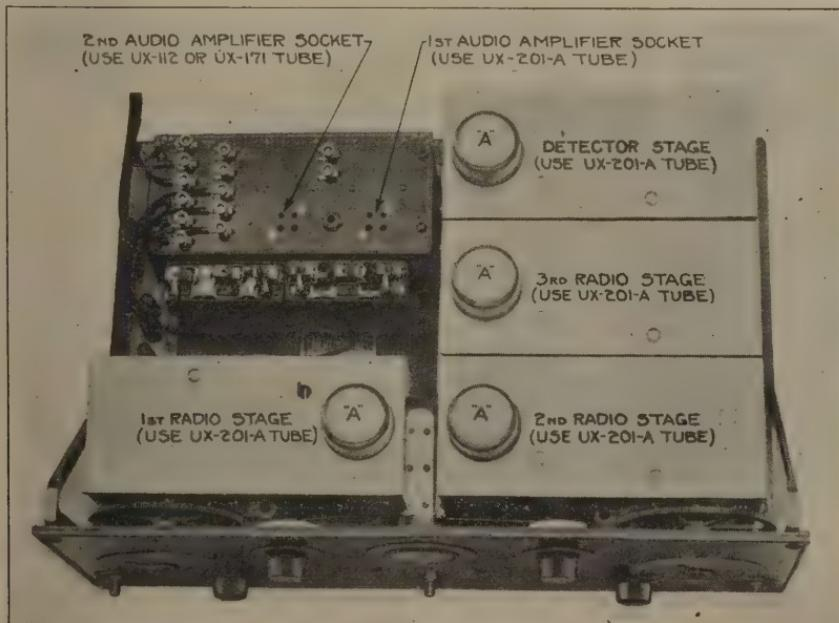

Fig. 11—Top View of Chassis showing location for Vacuum Tubes
**Fourth**—In all cases, the three radio amplifier stages, the detector and the 1st audio stage should be fitted with Radiotron UX-201-A Tubes. The 2nd audio stage requires a UX-112 Tube if one of the Accessory Lists Nos. 1, 2, 3 or 4, is chosen; UX-171 Tube if Accessory List No. 5 is chosen; and no tube if Accessory List No. 6 is chosen. The location of the sockets for these tubes is shown in Fig. 11. Before inserting any of the tubes, be sure that the batteries or socket power units are properly connected as shown in the wiring diagrams.